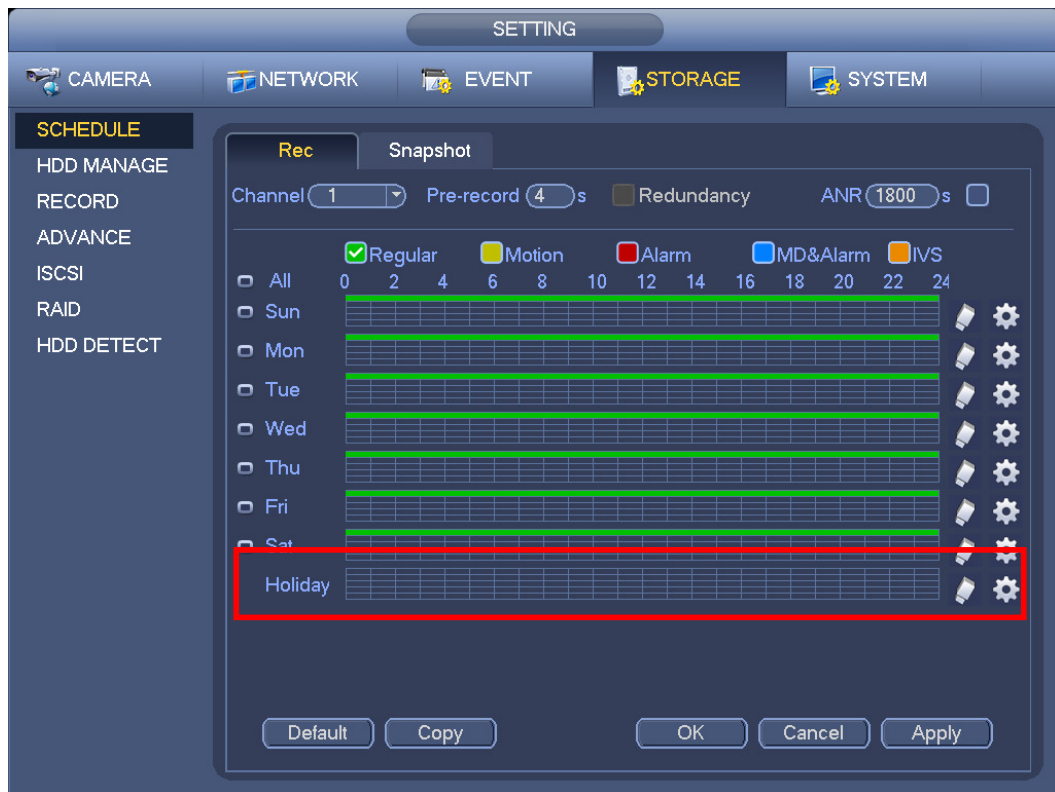

Figure 3-79
- d) From Main menu->setting->Storage->schedule, user may go to schedule interface. See Figure 3-79. Now user may set period and record type of holiday time. Please refer to chapter 3.11.2.1 for detailed setup information.
From Main menu->Setting->Storage->Schedule, user may go to schedule interface. See Figure 3-79. Click Holiday item to set snapshot period.